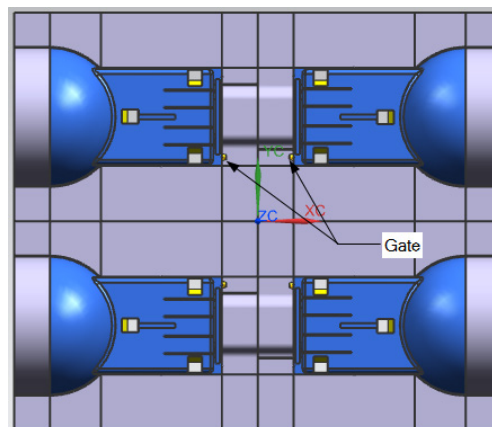

Figure 16-128 The gate position and orientation in the model
3. Specify the parameter of the gate in the **Details** rollout of the dialog box. Click in the **Specify Point** area in the **Placement** rollout and then specify the gate position and orientation, refer to Figure 16-128.